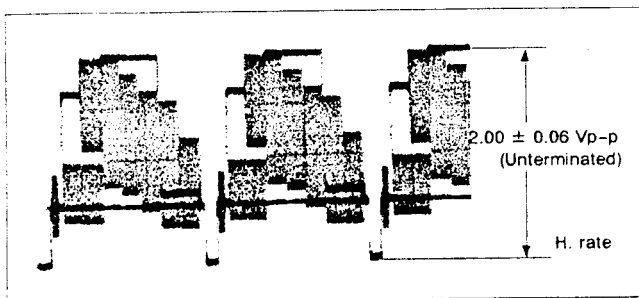

Fig. 3-1-10 Carrier & deviation
- If necessary, replace R29 with the variable chip resistor 4822 101 10851 and adjust it for 2.00 ± 0.06 Vp-p, as in Fig. 3-1-10.